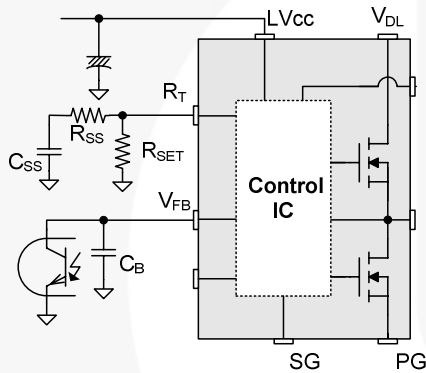

Figure 24. External Soft-Start Circuit
**4. Soft-Start:** At startup, the duty cycle starts increasing slowly to establish the correct working conditions for transformers, inductors, and capacitors. The voltage on the output capacitors is progressively increased to smoothly establish the required output voltage. Soft-start time is internally implemented for  $15\text{ms}$  (when the operating frequency is set to  $100\text{kHz}$ .) In addition, to help the soft-start operation, a capacitor and a resistor would be connected on the  $R_T$  pin externally, as shown in Figure 24. Before the power supply is powered on, the capacitor  $C_{SS}$  remains fully discharged. After power-on,  $C_{SS}$  becomes charged progressively by the current